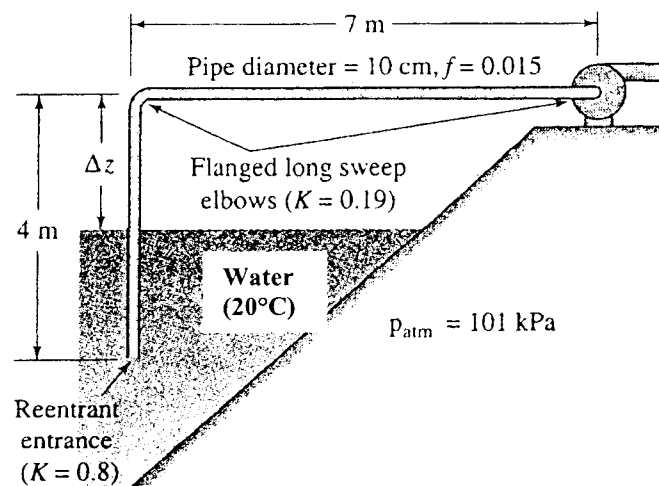

Figure Q5[b]
- [b] Water flows through the pump in the system shown in Figure Q5[b] at a rate of 60 L/s. The allowable net positive suction head at that flow is 3 m. Determine the maximum height  $\Delta z$ , above the water surface that the pump can be located to operate without cavitation. Vapour pressure and density for water at 20°C is 2.34 kPa and 998 kg/m3 respectively. Comment on your results.